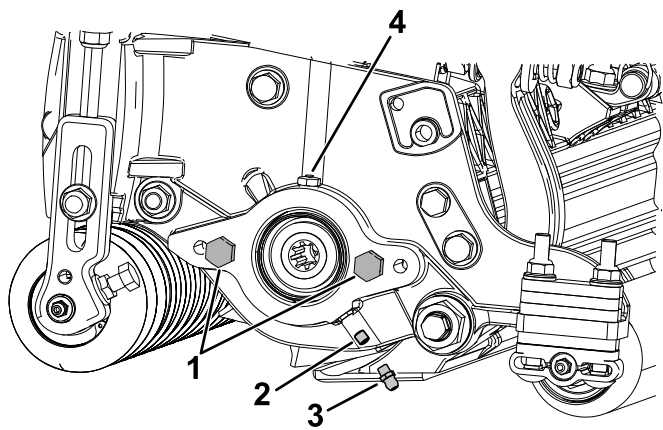

Figure 4
1. Remove and discard the setscrew on the reel-motor side plate (Figure 4).
2. Install the straight grease fitting (Figure 4).
2. If there are no cap screws on the reel-motor side plate, install them (Figure 4).
5. Grease the side plate until excess grease comes out of the grease vent (Figure 4).